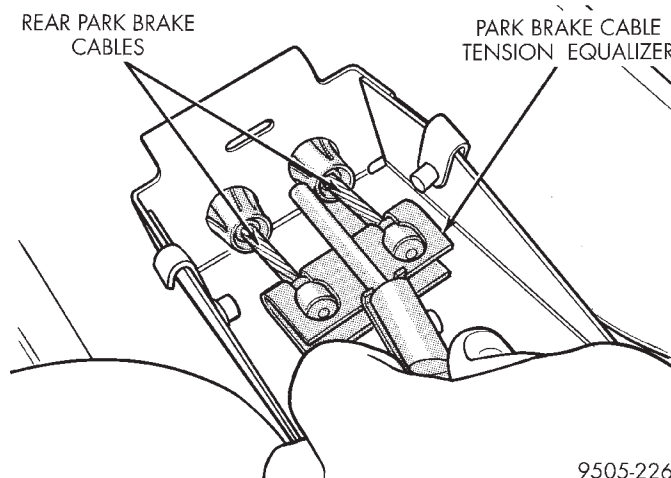

Fig. 143 Rear Park Brake Cables At Tension
(9) Remove the rear park brake cable requiring service, from the park brake cable tension equalizer (Fig. 143).